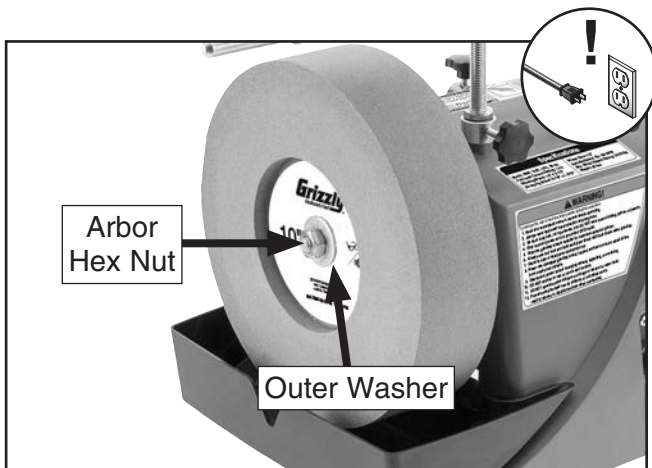

Figure 20. Grinding wheel removal components.
2. Remove arbor hex nut and outer flat washer (see **Figure 20**).